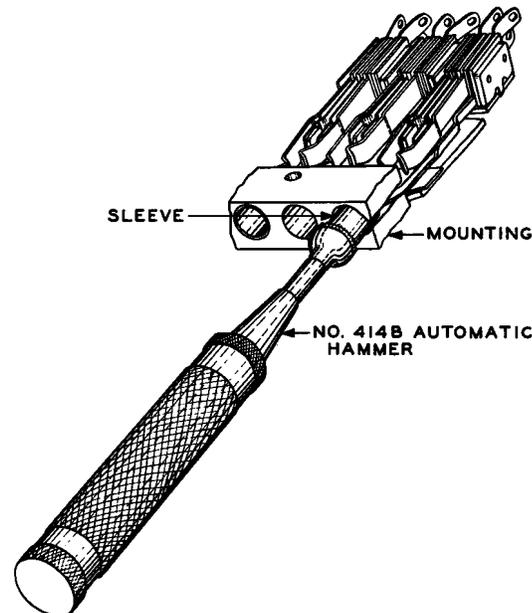

Fig. 8 – Method of Driving Sleeve Into Mounting With 414B Automatic Hammer
3.15 Place the 414B automatic hammer in the sleeve and carefully guide the sleeve into the opening in the face of the mounting as shown in Fig. 8. Do not turn or twist the sleeve in doing this. Push on the hammer until the automatic release operates. Repeat this operation until the sleeve is flush with the face of the mounting.